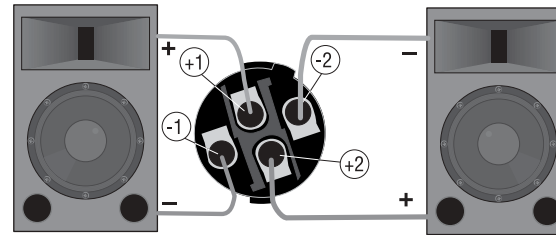

Figure 2.8 Speakon® Stereo Wiring Option 1:
1) Wire the two speakers to the same Speakon® connector as shown in Figure 2.8.